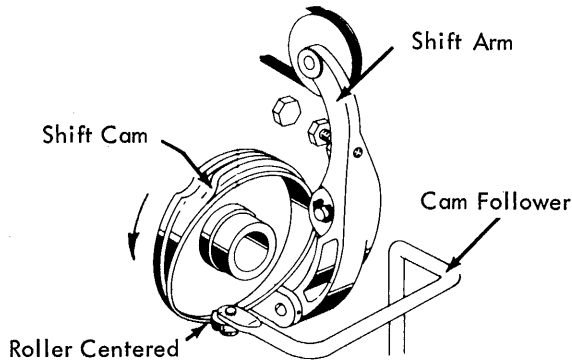

FIGURE 82. Contact Mounting Plate
1. Contact Mounting Plate (Fig. 82) - Position vertically so that the cam follower roller is centered on the shift cam surface.